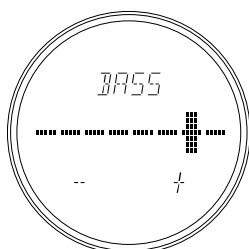

Fig.2
2. Within approx. 5 seconds, turn the **JOG** control  to the left to decrease, or to the right to increase step by step. You can both increase and decrease the tone for 5 step. (Fig.2) To cancel the tone adjustment operation, press the **ENTER** button .